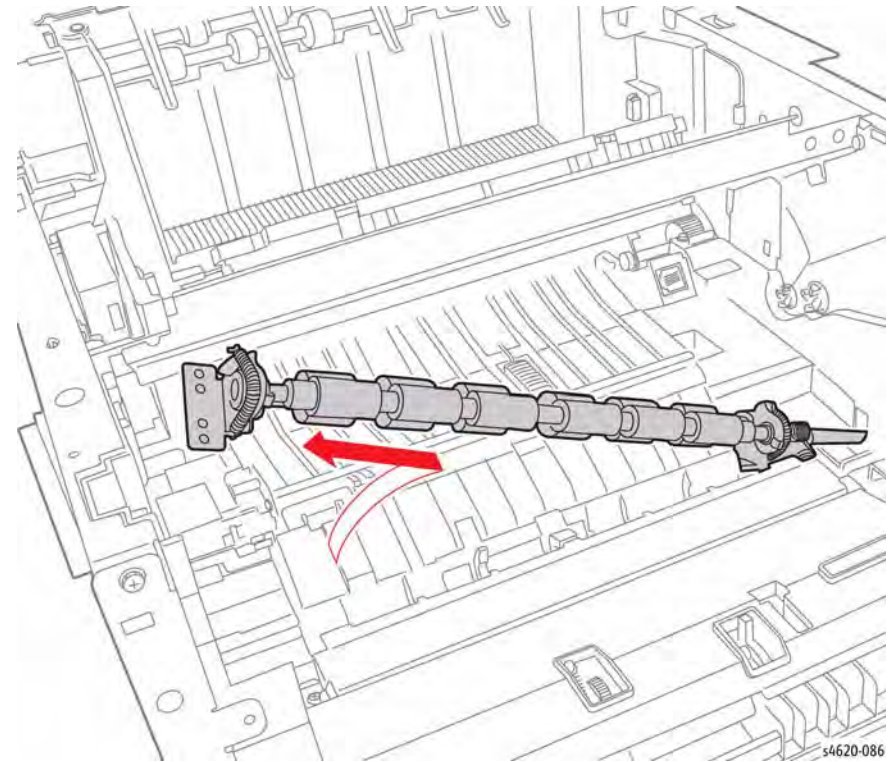

Figure 2 Remove the Registration Roller Assembly
10. Raise the left side of the assembly, then remove the registration roller shaft from the hole in the chassis, Figure 2.